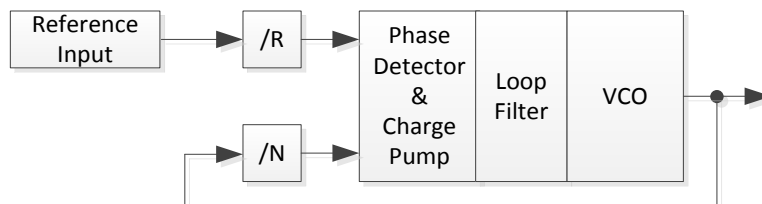

Figure 2 - Basic PLL
A PLL (phase locked loop) as illustrated in Figure 2 will also have phase alignment between the reference input and the VCO frequency at the rate of the phase detector frequency. However the forward division of the reference frequency by the reference divider (R) can introduce phase uncertainty between the reference input and VCO output in some cases.